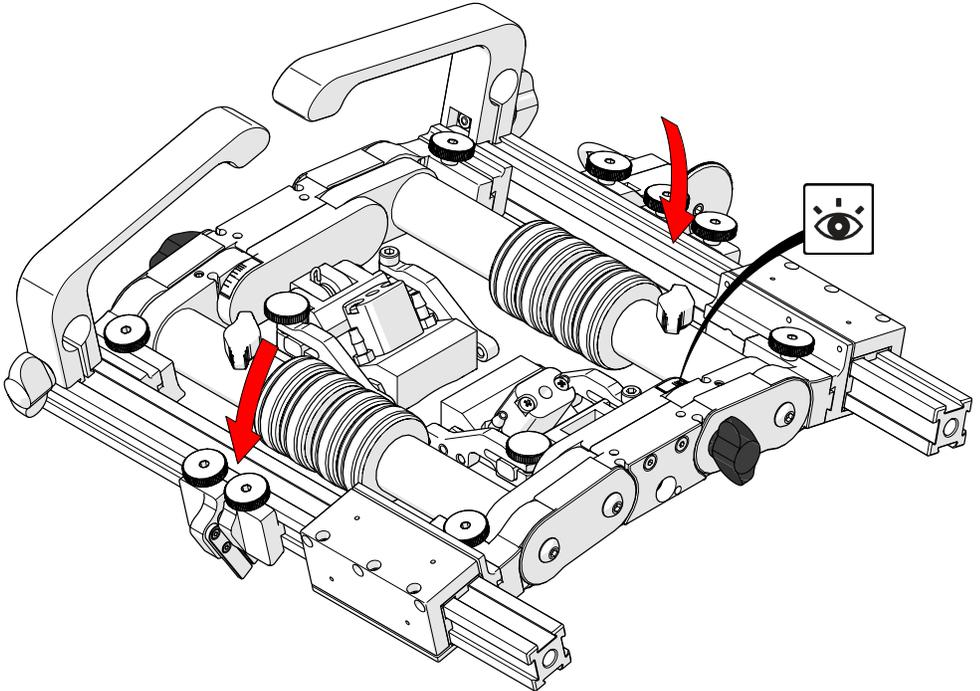

Fig. 47 - Loosen black wing knobs and pivot to desired diameter size
3. Loosen the black wing knobs (Fig. 47)
4. Pivot the frame to the required diameter using the diameter indicators (Fig. 47).